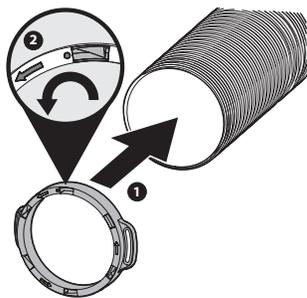

Figure 21
2. Install ring (731-12353A) onto free end of hose by aligning start of hose ribbing with the ring window next to a molded dot. See inset in Figure 21.